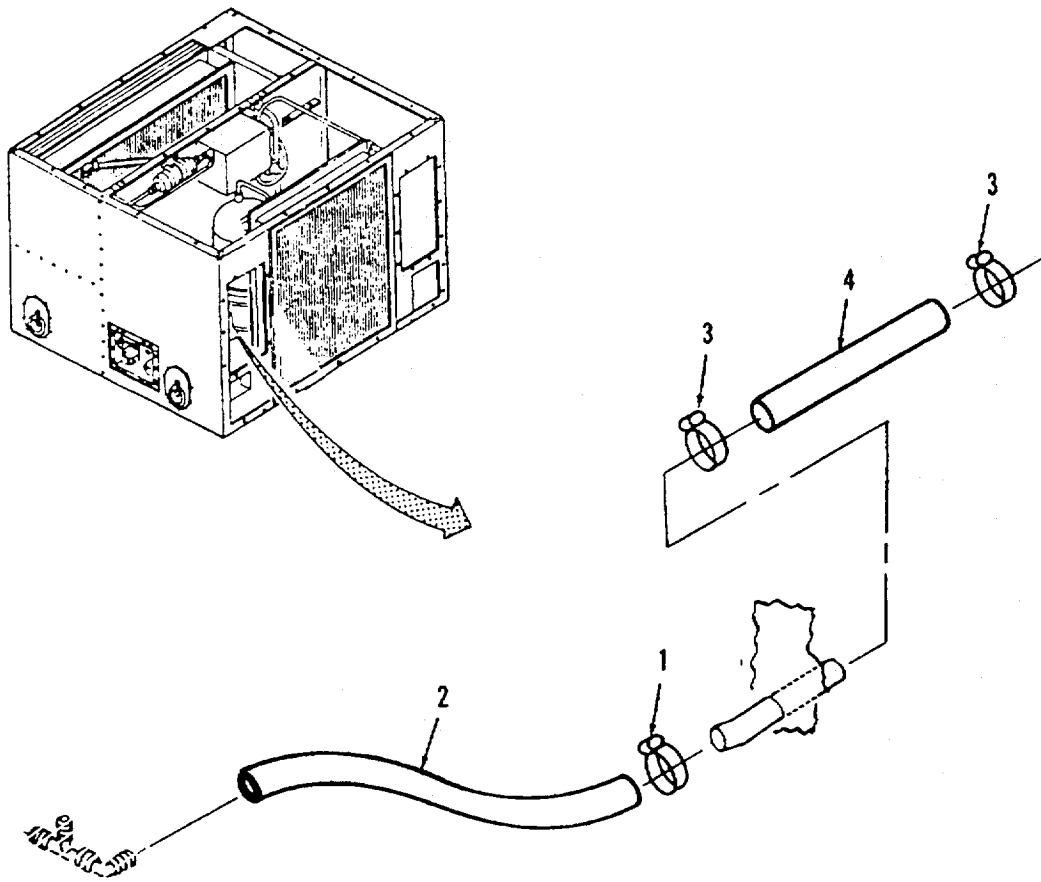

Figure 4-2. Condensate Drain Assembly.
**a. Removal** (Refer to Figure 4-2).
- (1) Loosen clamp (1) and remove tubing (2).
- (2) Remove two clamps (3) and tubing (4).